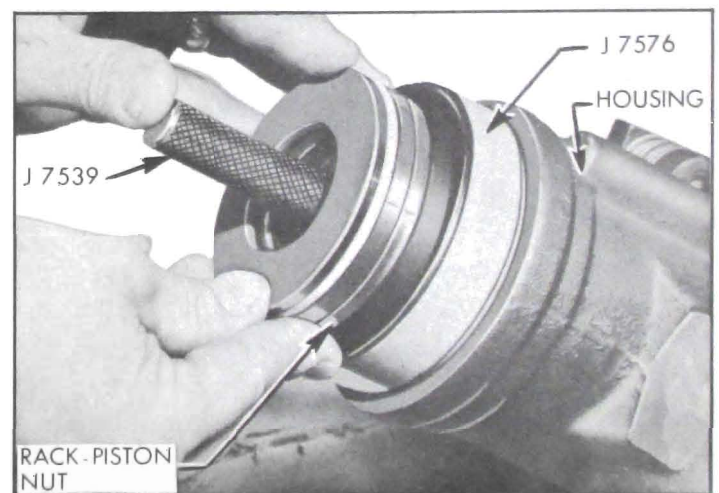

Figure 8-53—Installing Rack-Piston Nut in Housing
3. Install ring compressor sleeve tool J-7576 in gear housing and hold it tightly against shoulder in the housing. See Figure 8-53. Insert the rack-piston nut into the housing until